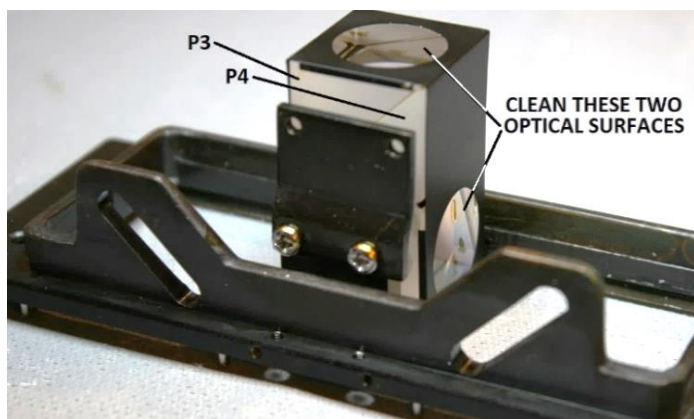
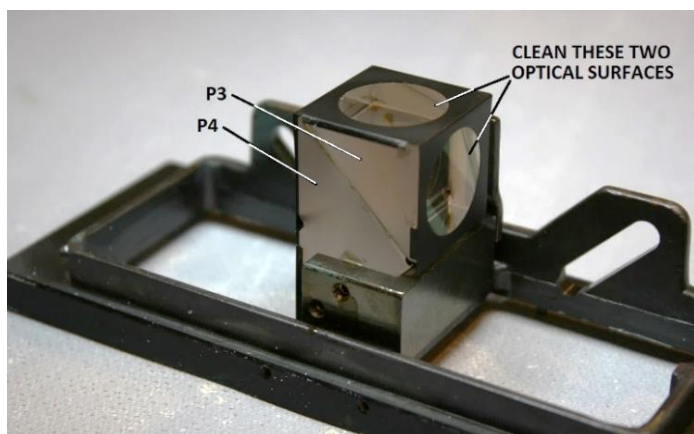

Figure 74 – Clean three faces of P3/P4 prisms (view 1)
Figure 75 – Clean three faces of P3/P4 prisms (view 2)
(item 7 of Appendix 1) to clean the three exposed faces of the P3 and P4 prisms (see Figure 74 and Figure 75).